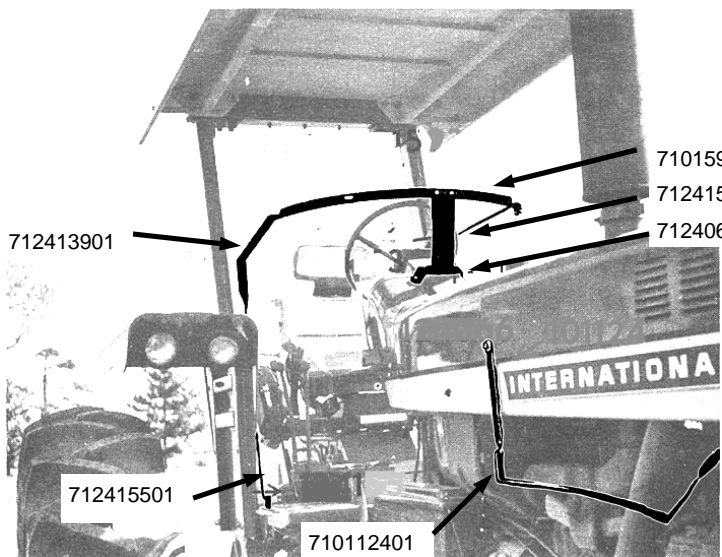

Figure 1
1. Attach # 712415301 Mount Bracket to # 712406601 Mount Bracket Clamp using two (2) 5/16x3/4" hex bolts and nuts.
2. Attach Mount Bracket clamp to tractor cowl using 5/16x3/4" hex bolts. See Figure 1 & 2
3. Attach # 710112401 Exhaust Guard to tractor cowl so Motor Cover does not contact exhaust system See Figure 1